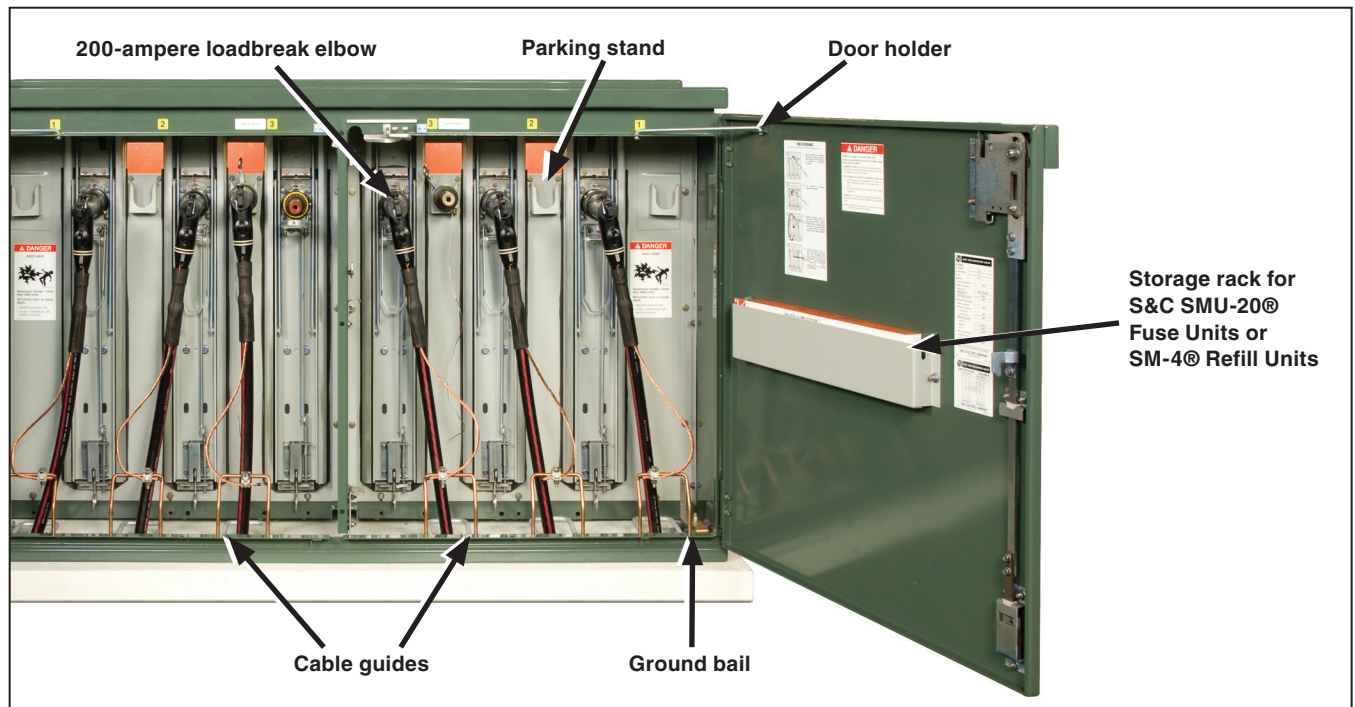

Figure 13. The termination compartment for fuses with elbows installed on 200-ampere inserts in the bushing wells.
- STEP 1.** Open the appropriate fuse termination-compartment door and secure it with the door holder. See Figure 13. On double-door models, the adjacent door should be closed and latched to minimize exposure.